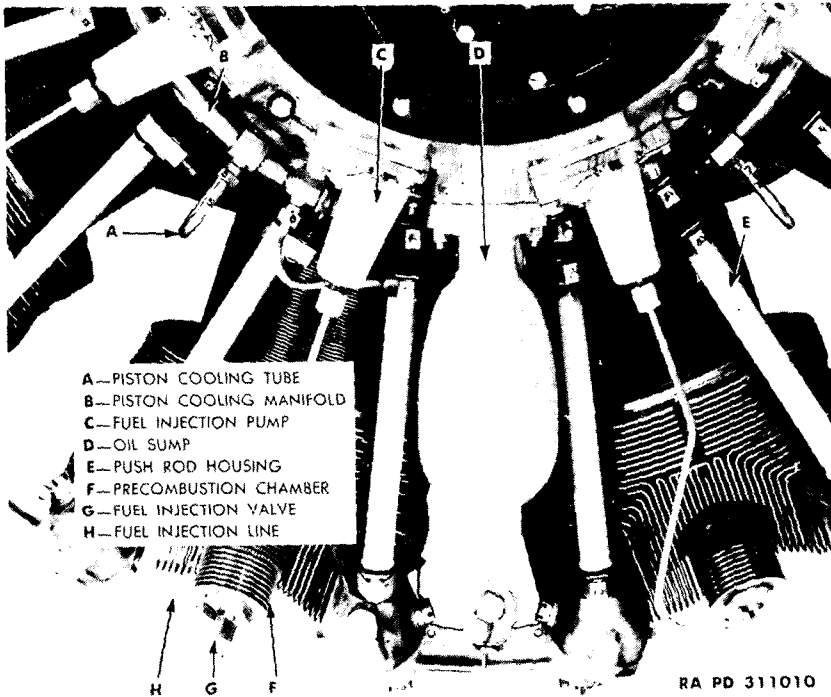

Figure 11 — Engine with Front Support Removed
d. **Remove Fuel Injection Pumps, Valves and Precombustion Chambers** (fig. 11). Fuel injection pumps are located adjacent to each cylinder and are mounted on the crankcase front section. Remove the fuel injection line, and place protector caps (5A79) over the pump and valve openings and plugs (5A1442) in each end of the lines. Remove the hollow head cap screws which hold pump to housing. Lift pump straight up. While holding precombustion chamber with wrench
g. **Remove Oil Sump** (fig. 11). Remove magnetic drain plug from bottom of sump. Drain oil from sump. Remove screened strainer by unscrewing plug at front of sump. Remove nuts and washers which
h. Remove Piston Cooling Tubes (fig. 11). Remove tubes leading from piston cooling oil manifold to piston cooling nozzles by loosening nuts securing tubes in position. Remove oil tube leading from primary oil filter to inlet fitting of filter. This tube passes between No. 9 and No. 1 cylinders. Remove nuts attaching piston cooling manifold to crankcase front section and lift piston cooling manifold from engine.
k. **Remove Push Rod Housings** (fig. 11). Loosen clamps at each end of each push rod housing. Slide housing radially inward toward crankcase front section. Lift rocker box end of push rod housing up and remove housing by pulling outward away from engine. Remove hoses and clamps. Remove loose fitting valve tappet ball sockets and springs from all of the valve tappets. Turn crankshaft, if necessary, to push sockets within reach.